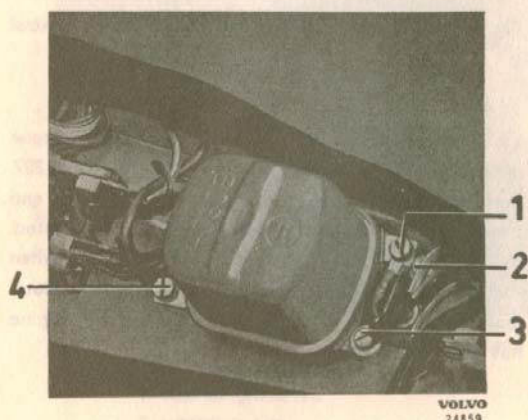

Fig. 10-47. Charging control terminals
3. Connect the leads. The leads are connected as shown in the Fig. 10-47 or according to the wiring diagram, illustration 10-1.